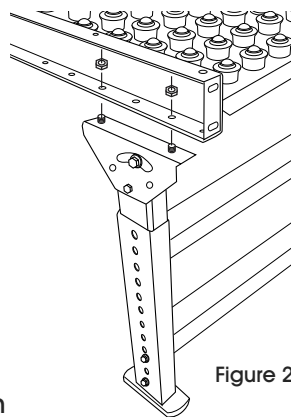

Figure 2
2. **Bolting two H-Stands to one table frame:** Position H-Stands on the end of the table frame. Fasten bolts through table and H-Stand. (See Figure 2)